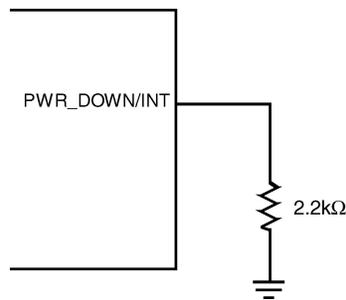
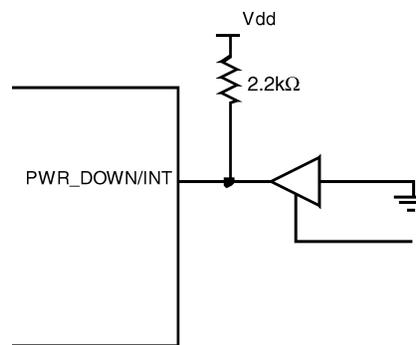
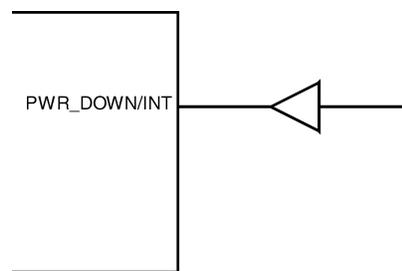

Figure 1. Initialization Via Pull Down Resistor
Figure 2. Initialization Via Tri-state Driver
Figure 3. Initialization Via Driver
- Using an external pull-down resistor (See Figure 1).
- Directly driving the PWRDOWN/INT pin to a logic low level (See Figure 2 or Figure 3).
Note that using an external resistor (Figure 1) or using a logic driver (Figure 3) prevents the PWR_DOWN/INT pin from normal interrupt operation. When configured as an interrupt with one of these connections, the pin would be pulled down or driven low, effectively signaling an interrupt.
Using a tri-state driver and a pull up resistor (Figure 2), interrupt capability can be maintained. However, during the time that the device is held in a power down state via the tri-state driver, the system would have to ignore the interrupt signal from the device.